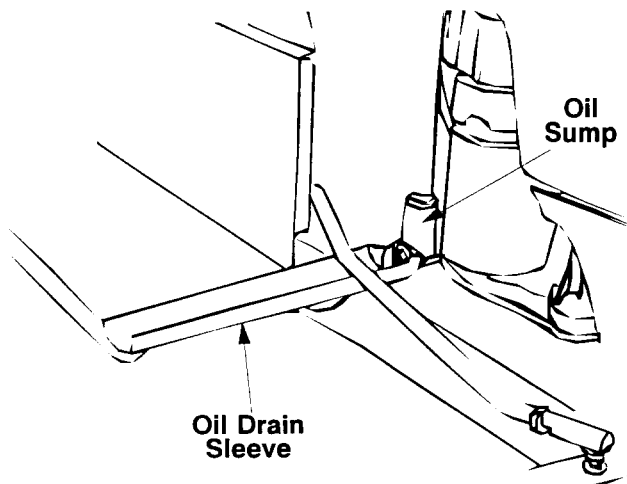

FIGURE 20
Your lawn tractor may have a plastic oil drain sleeve packed with the loose parts for your convenience in draining oil from the crankcase. To drain the oil, snap small end of oil drain sleeve onto oil sump. See Figure 20. Remove drain plug and drain oil into a suitable container.
**NOTE:** Figure 20 is shown with the unit tipped up for clarity. It is not necessary to tip the unit to remove the belts.